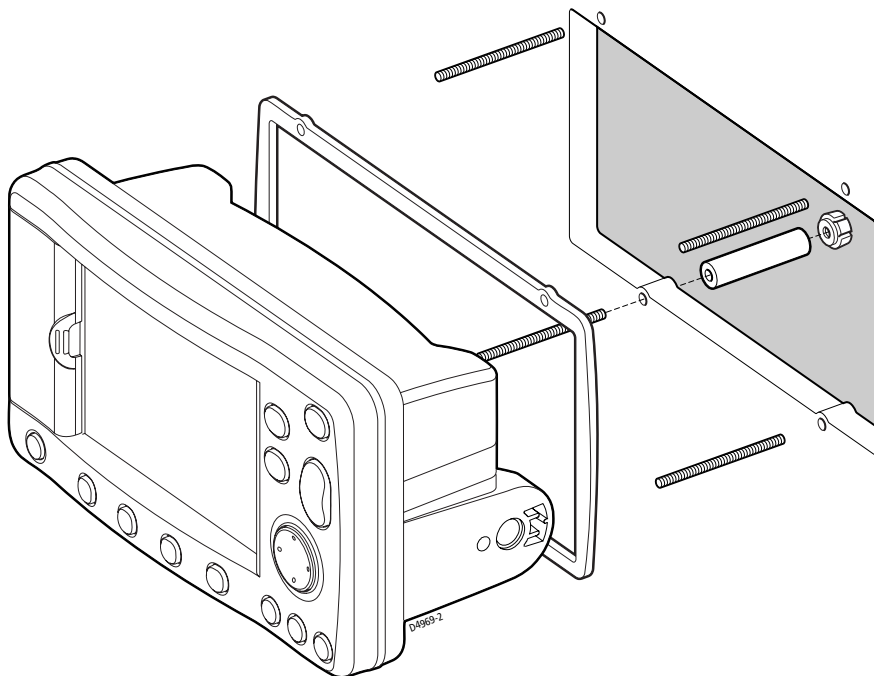

Figure 5-5: Panel Mounting
► Referring to *Figure 5-5*, panel mount the unit as follows: